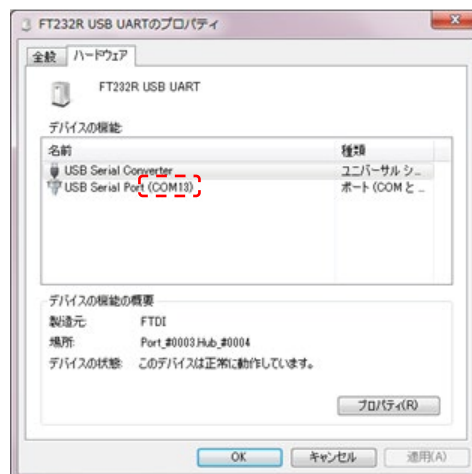

Figure 6 - COM Port No.
- (8) Click the "Hardware" tab on the "Properties" screen and check the displayed COM port number (Figure 6). Write down this number as this is necessary for initial setup of the data management software. (See Sec. (5-1) (5)).